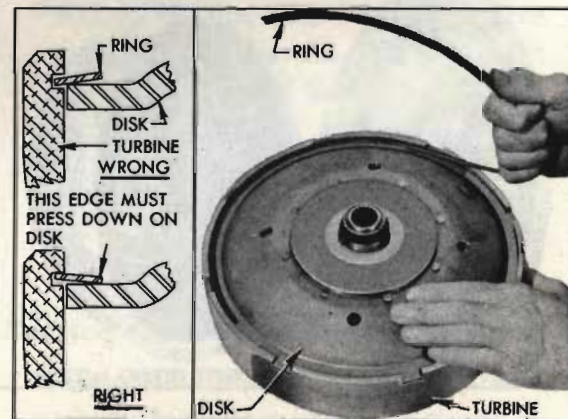

Fig. 37. Installing disc retaining ring
11. The turbine disc retaining ring is "dished". Install the retaining ring "dished" side up so that inner edge will bear against the disc when the ring is installed in groove of first turbine (Fig. 37).
12. To allow the retaining ring to enter the groove in the first turbine, start one end of the ring, then twist the ring upward as shown in (Fig. 37).